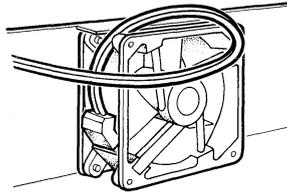

Figure 6-22 Install Rear Fan Power Cable
**The rear fan power cable is not keyed. Observe the polarity of the connector. The curve of the connector must match the curve of the fan housing (Figure 6-22).**
**The rear fan power cable is not keyed. Observe the polarity of the connector. The curve of the connector must match the curve of the fan housing as shown in Figure 6-22.**